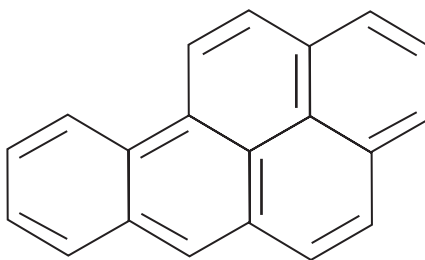

Figure 19.7
¹⁴ Benzene is different than the other chemicals in this list of compounds. It is a cyclic molecule with three *double* bonds. It is the simplest of the so-called aromatic compounds. A double bond means that the elements involved in the bond share *two* pairs of electrons. Quite often you see aromatic compounds represented with inner circles rather than the line representation for double bonds. Sharing the electrons in the way that benzene and other aromatic compounds do makes them stable. Conversely, non-cyclic molecules, which contain double (or triple) bonds are very reactive. An example of a simple linear molecule is *pentane* which will be seen when discussing gasoline combustion. The structure of an aromatic chemical more complex than benzene is seen in Figure 19.7.
- **PAHs** (polycyclic aromatic hydrocarbons) are formed in small amounts, but a number are very toxic. Observe in Figure 19.7 the structure of benzo[*a*]pyrene (BaP), a carcinogenic and mutagenic PAH.²⁸ Also see Box 19.3.
The double lines shown in the BaP structure (Figure 19.7) represent double bonds, i.e. the atoms involved share two pairs of electrons. However, saying that two carbon atoms share two pairs of electrons in such rings is a simplification; rather the electrons are “spread” among the carbons. The atoms that make up BaP are not shown because it is assumed that the carbons and the hydrogens are present; each apex represents a carbon atom. Benzene, the simplest aromatic ring compound has a formula of C_6H_6 . Examine the BaP molecule and determine why each ring is able to have less than six carbons.